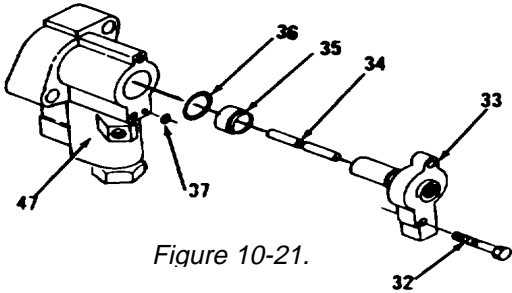

Figure 10-21.
- 15. Remove two bolts (32), cover (33), piston (34), spacer (35) and preformed packings (36 and 37) from housing (47, Figure 10-21). Discard preformed packings (36 and 37).